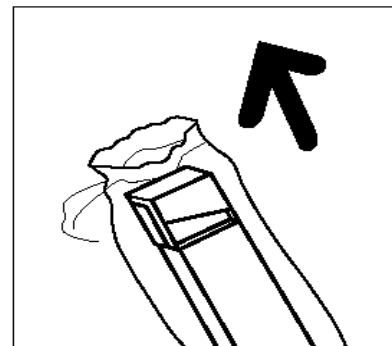

Figure 16: Removing the new Dry Ink Waste Container from the bag
- 6** Remove the new Dry Ink Waste Container from the box and bag, as illustrated in Figure 16.